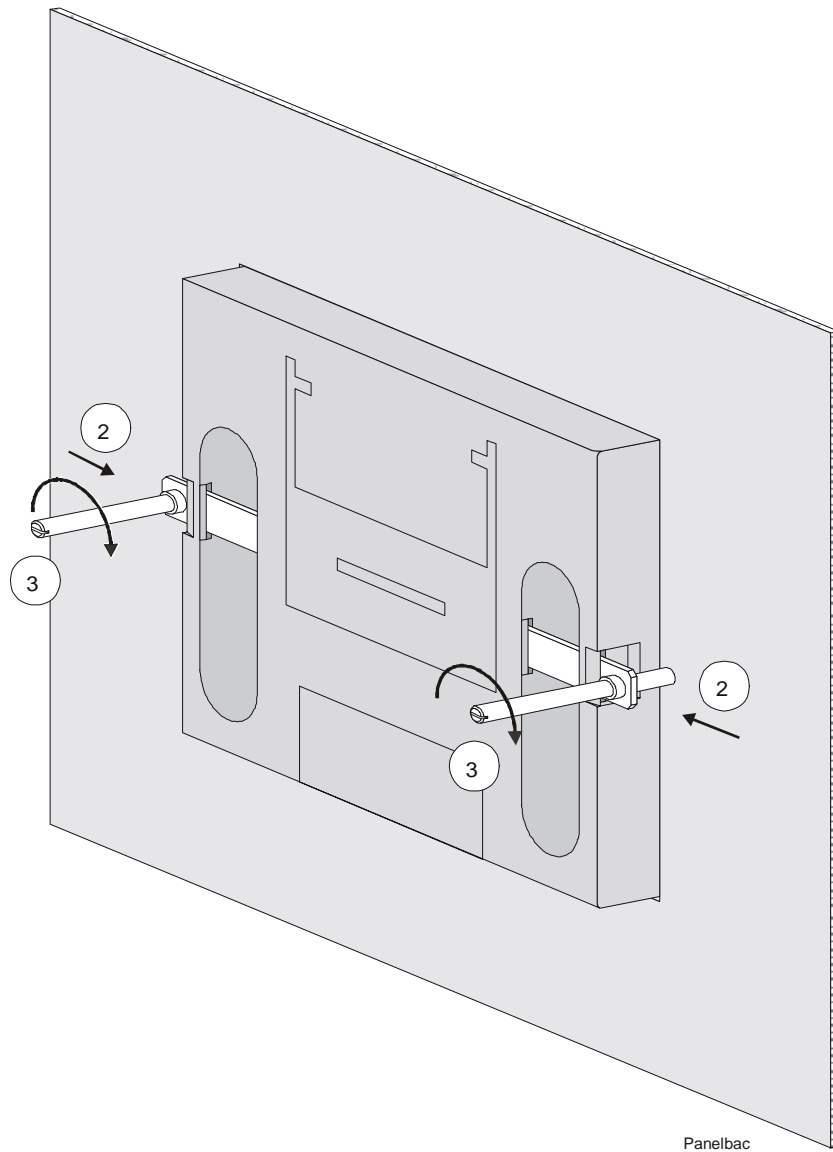

Figure 3-8: Securing the DX LCD Display in the Panel
3. From the rear of the panel, insert the locking tabs supplied with the panel mounting kit into the corresponding slots in the sides and back of the DX LCD Display, as indicated by ② in Figure 3-8.
4. Secure the DX LCD Display in the panel by tightening the screws of the locking tabs, as indicated by ③ in Figure 3-8.